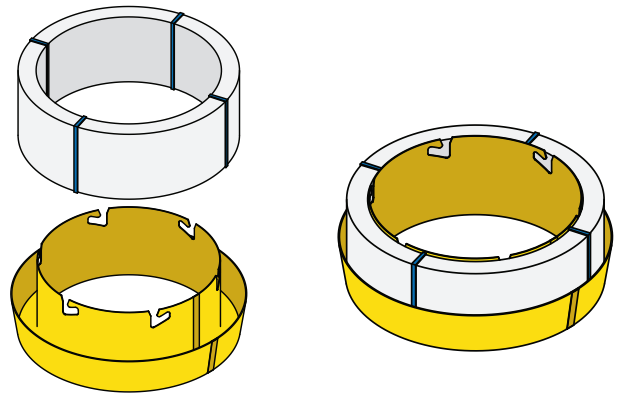

FIG. 11
Install a Cassette (I) into the Cassette Holder (H) pushing it down so that it is snug and even on all sides [FIG. 11].